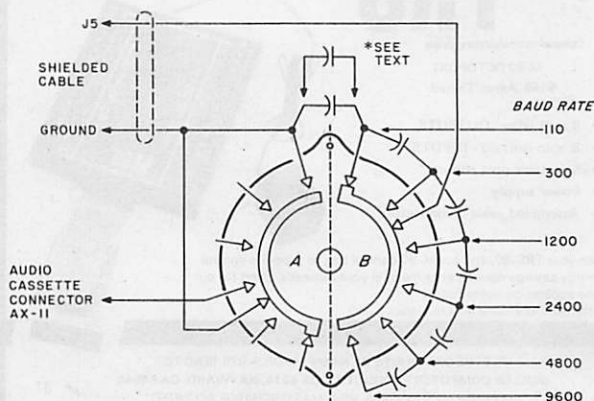

Fig. 5. Baud rate selector switch.
- Connect the first capacitor, .068 uF, between the first switch position and one terminal on the other half of the switch (see Fig. 5). The five remaining capacitors are wired in series from terminal to terminal starting at the first terminal.
- Install a shielded wire from the J5 donut to the rotary switch pole. The shield should be grounded at the board end with the other end soldered to the ground terminal on the rotary switch (see Fig. 5). I used a shielded wire to prevent stray signals from affecting the 555 circuit and frequency.
- Select the first switch position, 110 baud, and adjust the potentiometer, R51 (see Figs. 5 and 6), for a frequency of 1760 Hz.